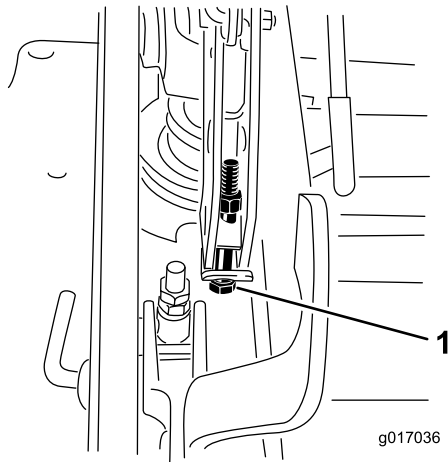

Figure 104
12. If the deck is too low, tighten the single-point-adjustment bolt by rotating it clockwise. If the deck is too high, loosen the single-point-adjustment bolt by rotating it counterclockwise (Figure 104).